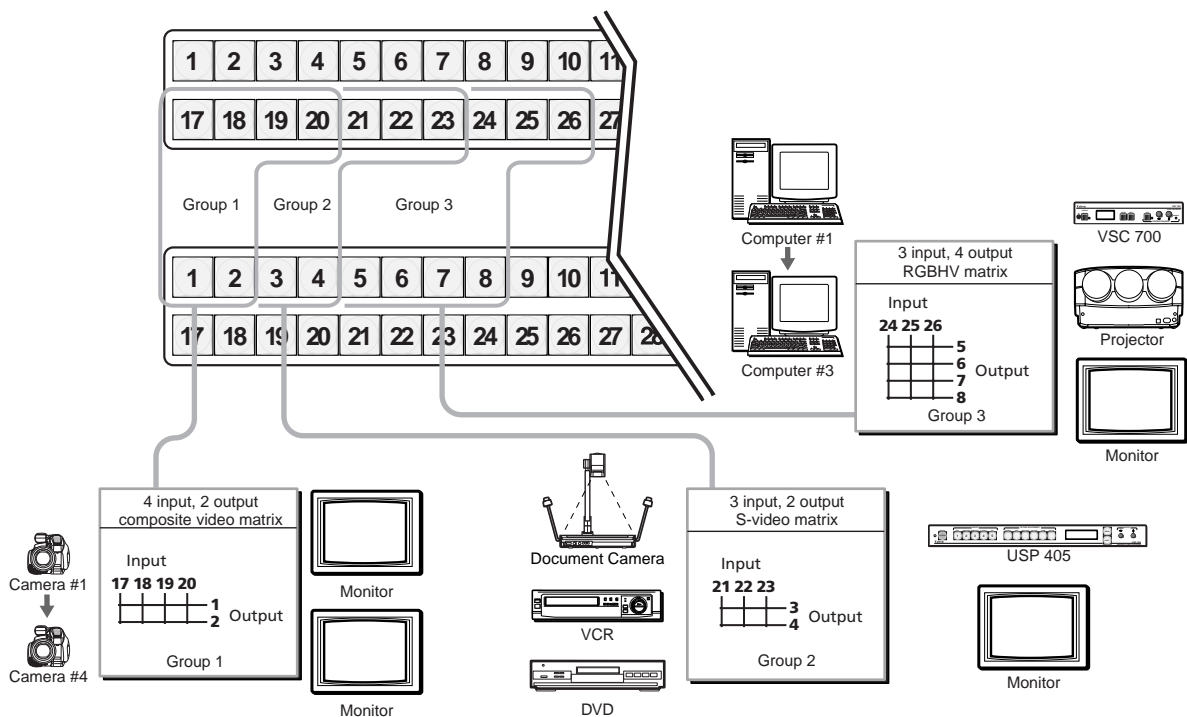

Figure 3-29 — I/O grouping of incompatible video formats
- Segregating specific video formats to prevent an input in one video format from being inadvertently applied to an output device that supports another video format (figure 3-29).